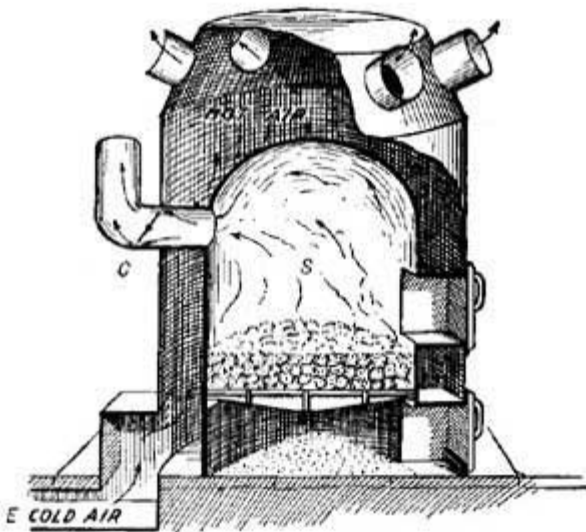

FIG. 13.—A furnace. Pipes conduct hot air to the rooms.
9. Furnaces. Hot Air. The labor involved in the care of numerous stoves is considerable, and hence the advent of a central heating stove, or furnace, was a great saving in strength and fuel. A furnace is a stove arranged as in Figure 13. The stove *S*, like all other stoves, has an inlet for air and an outlet *C* for smoke; but in addition, it has built around it a chamber in which air circulates and is warmed. The air warmed by the stove is forced upward by cold air which enters from outside. For example, cold air constantly entering at *E* drives the air heated by *S* through pipes and ducts to the rooms to be heated.